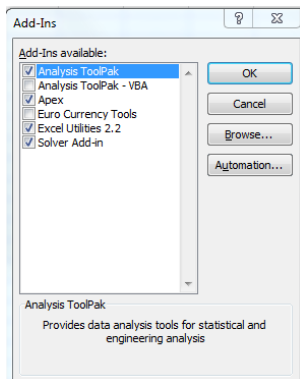

Figure 10
6. If not already selected, select the check box next to **APEX**. Click **OK** (Figure 10).